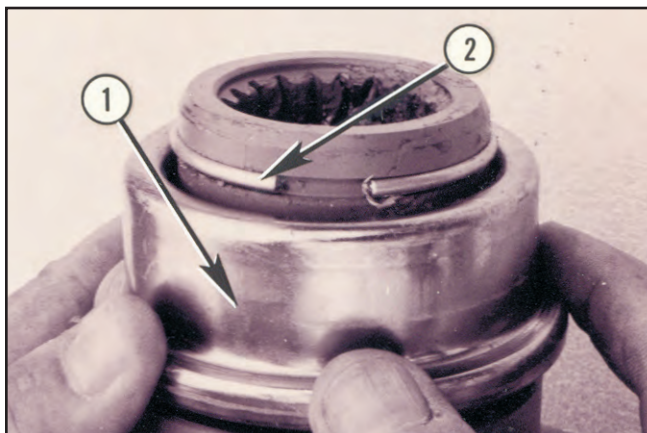

FIGURE 85
1. Depress collar (1) and extract external snap ring (2), allow collar to slide off. See Figure 85.